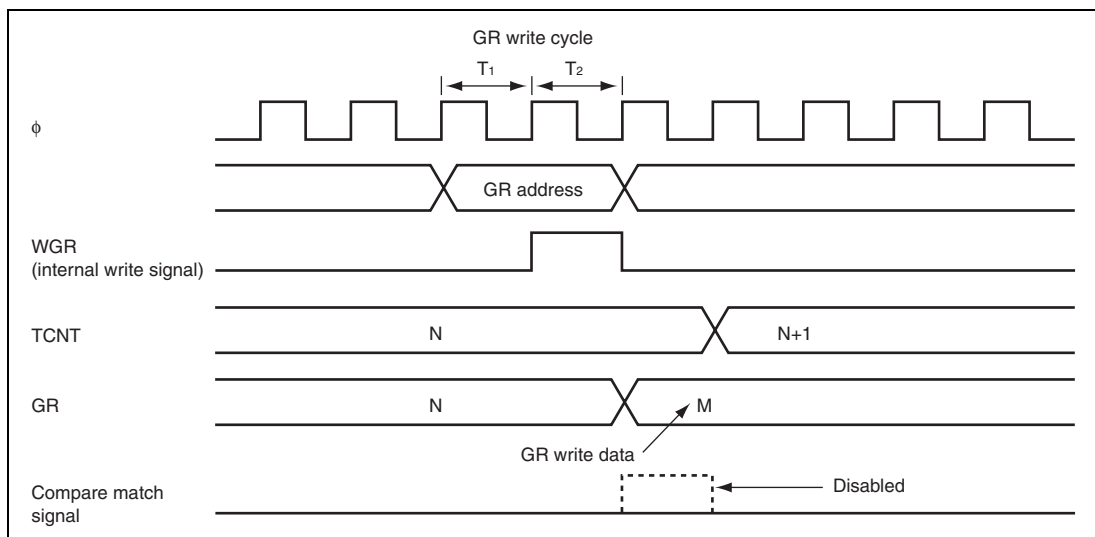

Figure 12.54 Contention between GR Write and Compare Match
3. Contention between GR Write and Compare Match: If a compare match occurs in the T_2 state of a GR write cycle, GR write has priority and the compare match signal is disabled. Figure 12.54 shows the timing in this case.